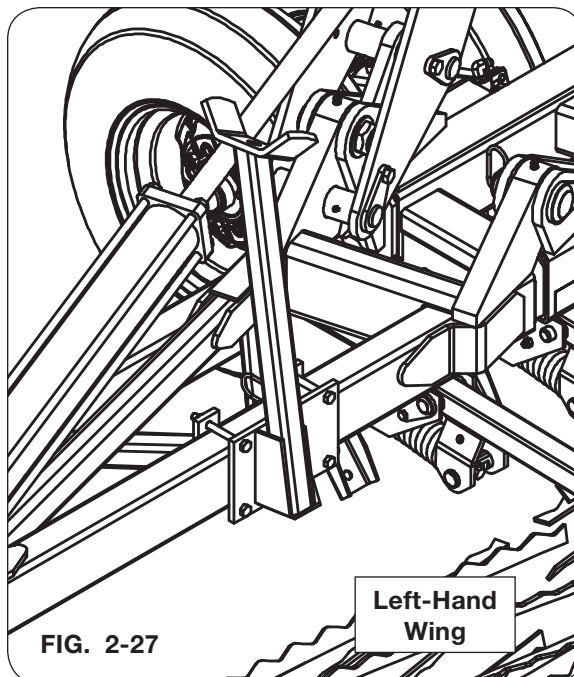

FIG. 2-27
2. Loosely mount the wing stand (89941B) to the rear of the left-hand wing with stand plates (89944B), 1/2"-13UNC x 5" capscrews (9390-113), and 1/2"-13UNC locknuts (9800) as shown in FIG. 2-27.